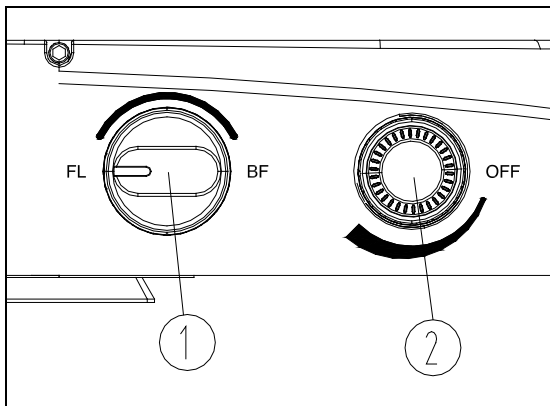

Fig. 40
8. The LED fluorescence filter block adjustment knob ① can be rotated 180° in the direction of the arrow to change between transmitted brightfield and LED fluorescence illumination and observation. FL means fluorescence observation, and BF means brightfield observation. (See Fig. 40)
9. Illumination Intensity: Rotate the adjustment knob ② in clockwise to turn on the LED fluorescence lamp is turned on – the knob will click when the LED lamp turns on. Rotate the knob clockwise to increase the FL LED intensity; Rotate the adjustment knob ② counterclockwise to reduce the brightness of the LED fluorescence lamp. To turn off the FL LED lamp, continue to turn the knob counterclockwise until it clicks. (See Fig. 40)